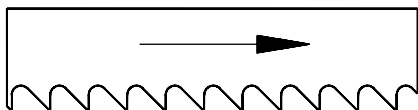

Figure 10 – Blade Direction
- Make sure the teeth are pointing in the right direction (See Figure 10).